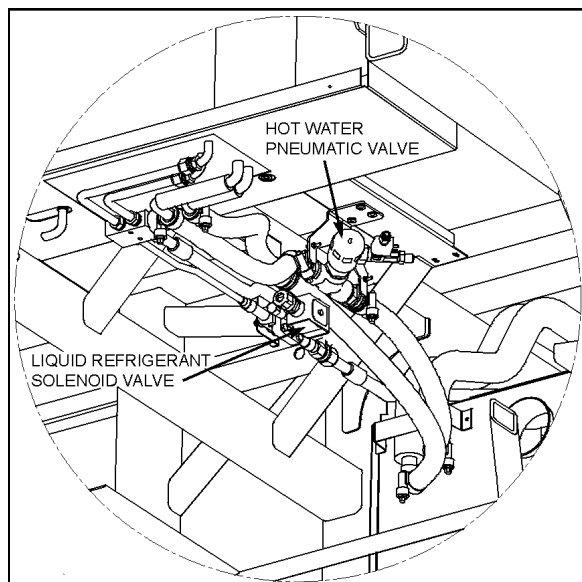

FIGURE 40: CEILING OF THE SPARE WHEEL COMPARTMENT
2. Locate the normally open water pneumatic valve on the ceiling of the spare wheel compartment (Figure 40), move the pilot-solenoid valve red tab to close the valve.